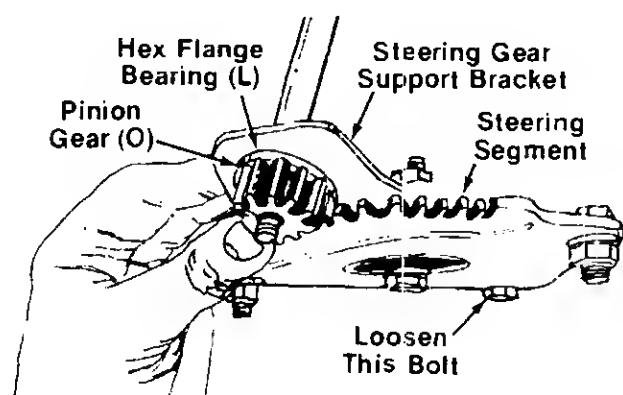

FIGURE 4.
Two 9/16" wrenches are required. See figure 4.
5. Place **hex flange bearing (L)**, flat side down, over the end of the **steering shaft**, and seat it into the **steering gear support bracket**. See figure 4.
6. Position **pinion gear (O)** over splined collar on **steering shaft**. Then place **flat washer (N)** (5/8" diameter) on shaft and secure with **hex nut (M)** (5/16" I.D.). Do not tighten at this time.